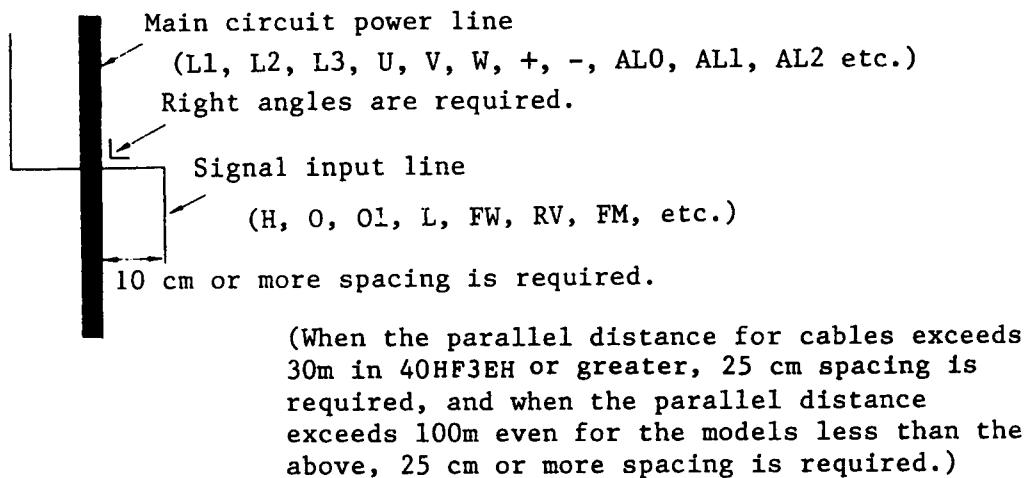

Fig. 7 Cable Separation
- (5) Select a signal line switch or relay for weak current which can be used at 12V DC, 3 mA for control circuit terminals except for AL1, AL2 and AL0.
- (6) Separate the inverter signal line from the power line as shown in Fig. 7 below. If cross-over is unavoidable, however, cross them perpendicularly each other.